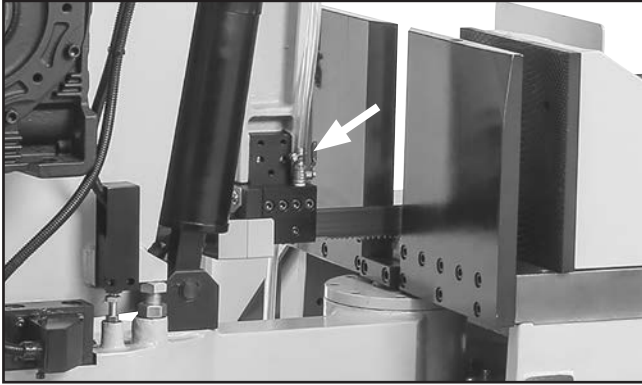

Figure 17. Coolant valve (1 of 3) opened.
11. Open coolant valves (see **Figure 17**).